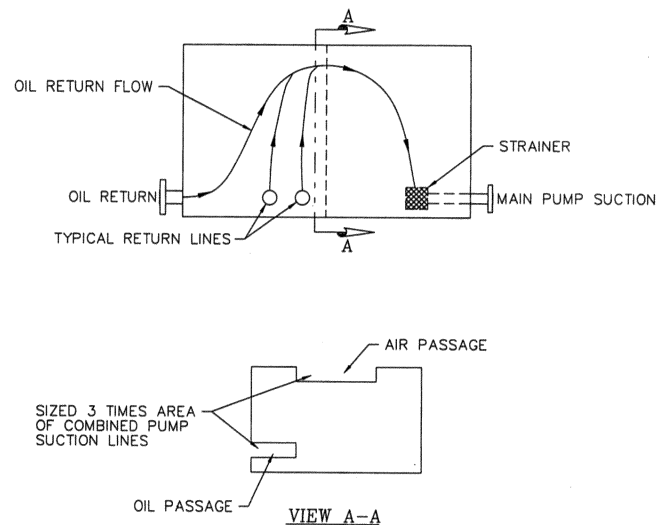
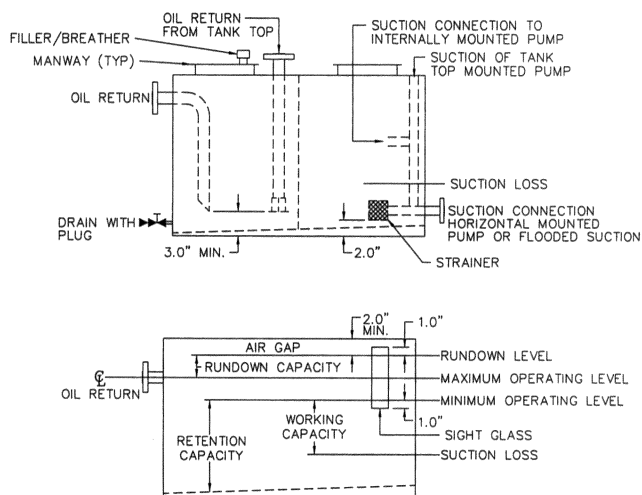

Figure 2. Reservoir Baffle Orientation and Design.
Figure 3. Reservoir Suction and Return Line Orientation/Reservoir Capacities.
- **Baffle**—The function of the baffle is to separate pump suction from oil returns. Oil returns include return from process pumps and auxiliaries, lube oil pump relief valves, returns from pressure control valves, filter vents, control valve head, and instrument vents. Baffles should have an air passage at the tank top equal to three times the area of the auxiliary and main pump suction lines combined. A baffled passage is strategically located two inches above the tank bottom. This baffle should have the greatest possible distance between the main pump inlet and return line to allow oil to pass from the return side to the suction side of the reservoir. The oil travel path shall be as long as possible from the time it returns to the reservoir until it reaches the pump suction to provide the maximum amount of time for settling of contaminants (Figure 2).
Refer to Figure 2 for baffle design and location. Figure 3 shows suction and return locations in the reservoir as well as reservoir capacities.
• **Rundown capacity**—is the amount of oil expected to return to the reservoir when the system is shut down. (If this is unknown, use 10 percent of the total capacity of the reservoir, refer to Figure 3 for details.)